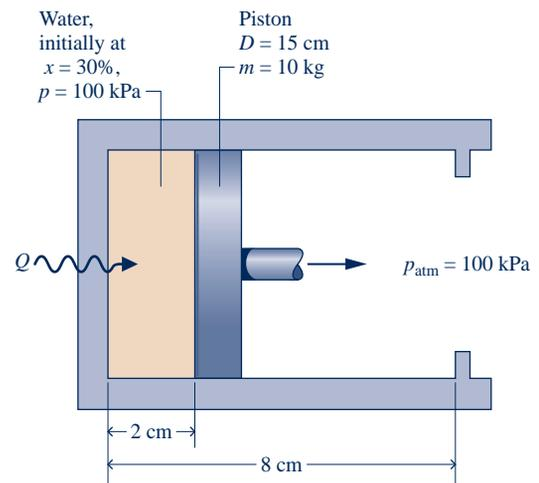

Fig. P3.76
3.76 A two-phase, liquid–vapor mixture of H₂O, initially at $x = 30\%$ and a pressure of 100 kPa, is contained in a piston–cylinder assembly, as shown in Fig P3.76. The mass of the piston is 10 kg, and its diameter is 15 cm. The pressure of the surroundings is 100 kPa. As the water is heated, the pressure inside the cylinder remains constant until the piston hits the stops. Heat transfer to the water continues at constant volume until the pressure is 150 kPa. Friction between the piston and the cylinder wall and kinetic and potential energy effects are negligible. For the overall process of the water, determine the work and heat transfer, each in kJ.